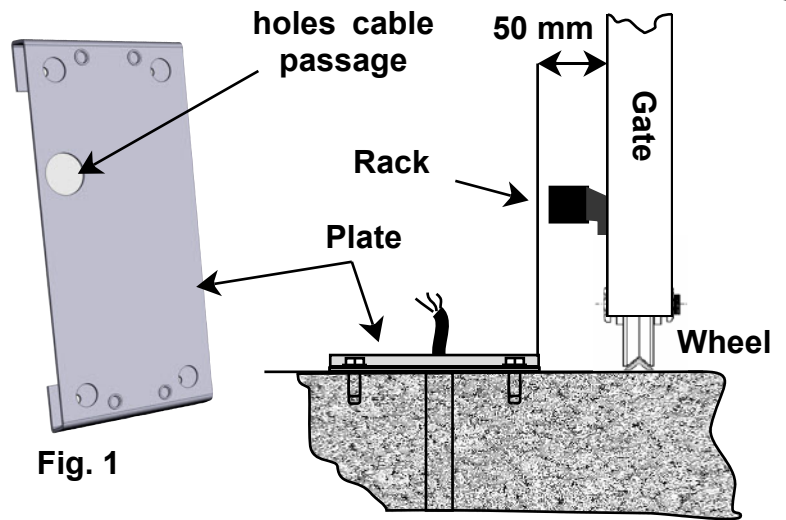
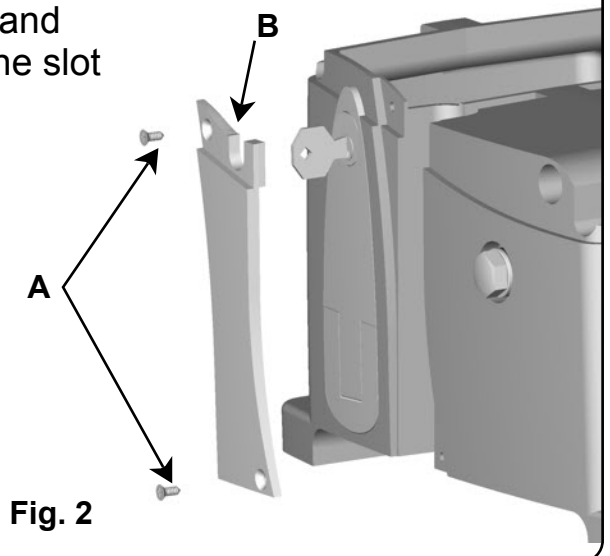
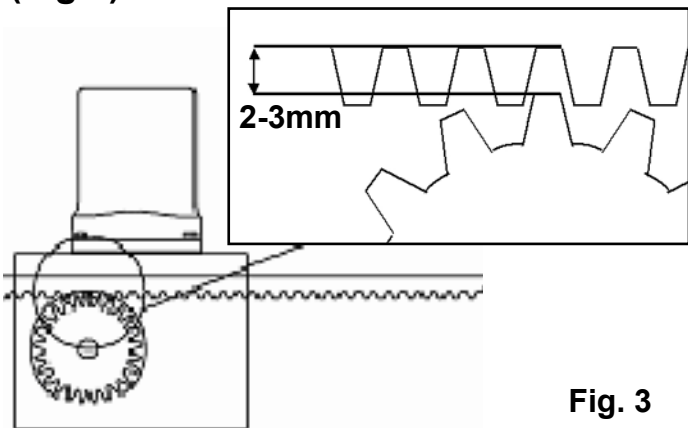

Fig. 1
Fig. 2
Fig. 3
- Also check that the runner on the ground (**Fig. 1**) is not deformed, is perfectly level and that the mechanical stop is present on opening (**Fig. 2**) in order to **prevent** the gate from going beyond the upper runners (**Fig. 3**)
- Check the upper runner (**see Fig. 3**) is firm and the gate slides freely.
Position the plate provided (**Fig. 1**) 50 mm from the edge of the gate and perfectly square at an angle of 90°.
Remove the cop cover, unscrew the screws **A** and remove the cover **B** and route the cables into the slot of the motor. (**Fig.2**).
Fasten the rack to the gate firmly, leaving a distance of between 2 and 3 mm from the motor pinion (**Fig.3**).